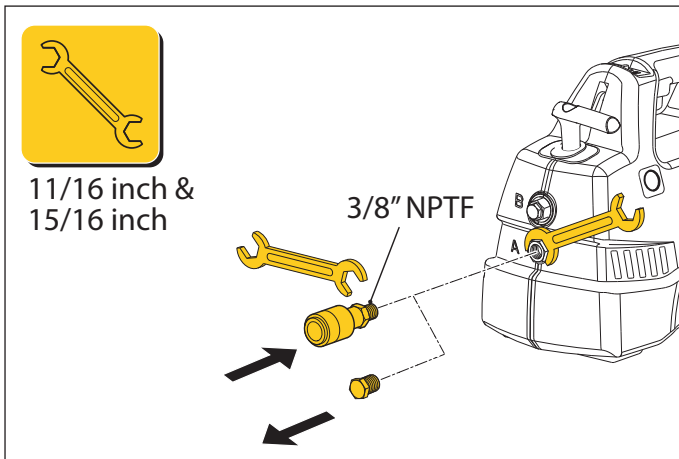

Figure 5, Shipping Plug Removal & Hydraulic Coupling Installation (typical)
2. Remove the shipping plugs from pump ports “A” and “B”. Use a 15/16" wrench to hold the port fitting in place. Then, use a 11/16" wrench to remove the shipping plug. See Figure 5.